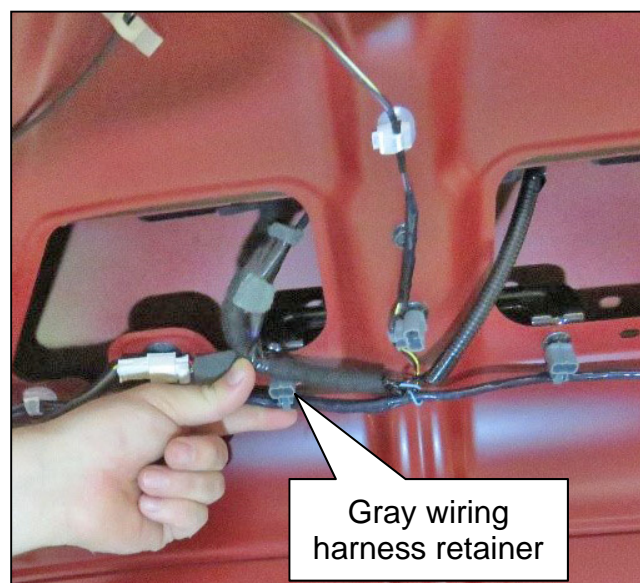

Figure 12
12. Locate the gray wiring harness retainer shown in Figure 12.